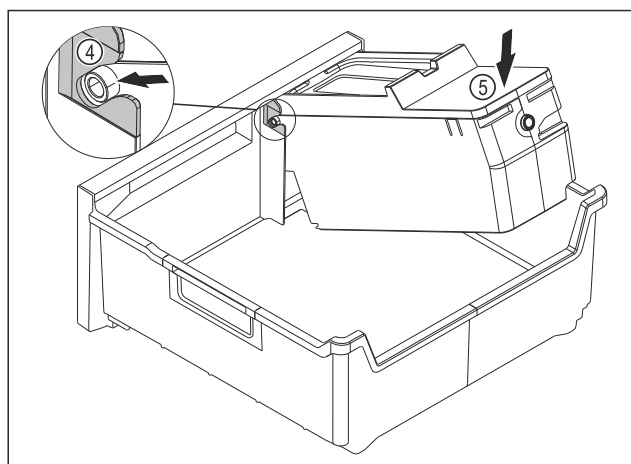

Fig. 72
- Installing the EasyTwist-Ice body: Push the axes for the EasyTwist-Ice body into the guides Fig. 72 (4).
- Press the EasyTwist-Ice body Fig. 72 (5) down at the back.